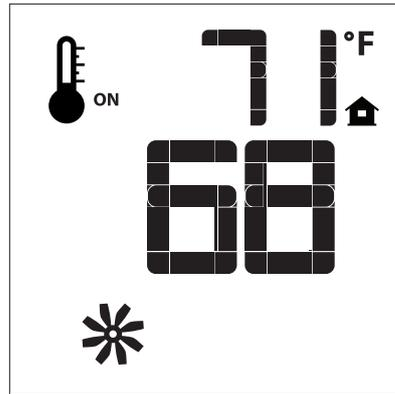
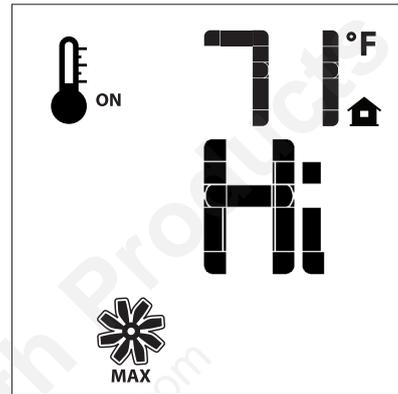

Fig. 14
Fig. 15
If the appliance is equipped with a hot air circulating fan, the speed of the fan can be controlled by the Proflame system. The fan speed can be adjusted through six (6) speeds. To activate this function use the Mode Key (fig.1) to index to the fan control icon (Fig. 14). Use the Up/Down Arrow Keys (Fig.1) to turn on, off or adjust the fan speed (fig. 15). A single "beep" will confirm reception of the command.